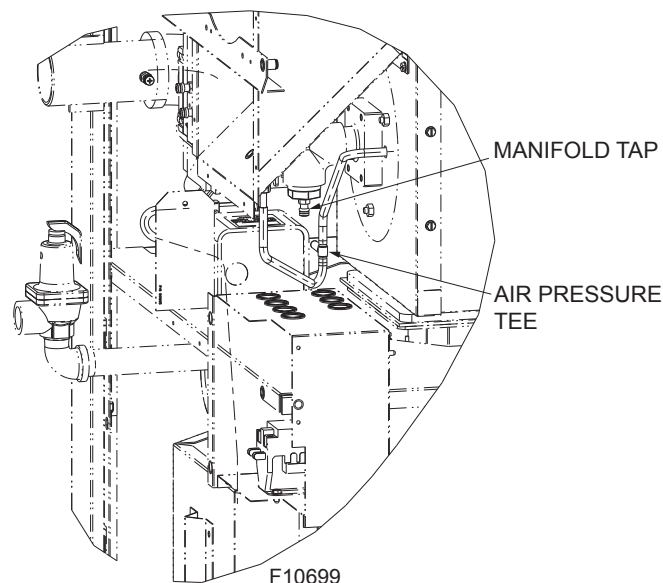

Figure 54. Air Pressure Tee
4. Attach second 12" scale manometer on the fan suction pressure hose. Pull black cap from the air pressure tee and connect the manometer. See **Figure 54**. NOTE: Retain caps for reinstallation later.
1. Check blower suction using the manometer attached to the air pressure tee with the heater firing at 100% input. See **Figure 54**. The reading should be as noted in **Table V** for both natural and propane gas.